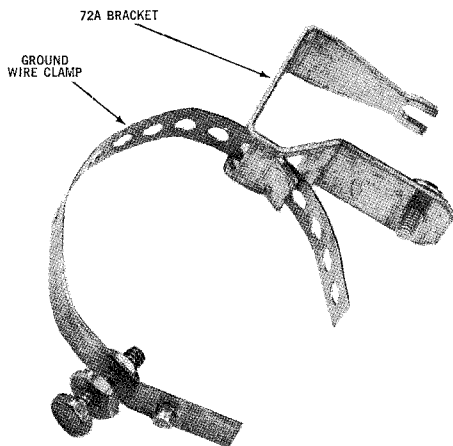
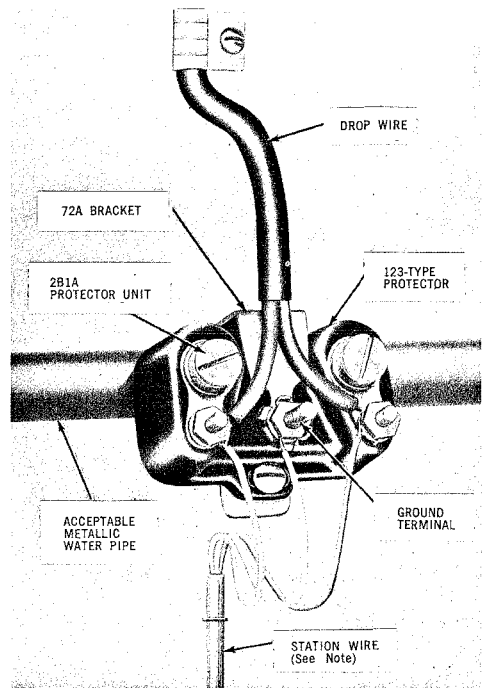

Fig. 8 — Station Ground Wire Clamp Through Slot in 72A Bracket
Fig. 13 — 123 Type Protector Installed With 72A Bracket
3.04 The 72A Bracket (Fig. 8) is used to mount a 123A1A protector on an acceptable metallic cold water pipe or to a power stack by means of a station ground clamp (Figs. 13 and 14).
into place, making sure the notched portion of the clamp is under the pronged washer of the protector ground terminal. Place screw through mounting hole in protector and into threaded hole in the bracket. Tighten mounting screw and protector ground terminal nut thoroughly. A protector mounted in this manner is grounded through the 72A Bracket and eliminates the use of station ground wire. (See Fig. 13.)